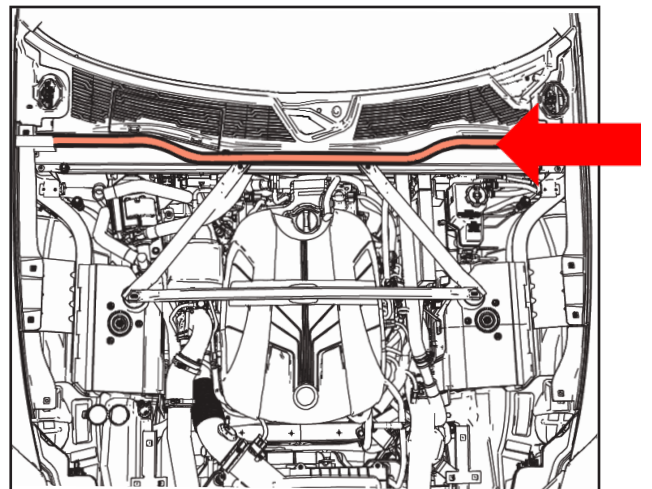

fig. 8a
- a. Remove the rear hood seal from the cover (fig. 8a)